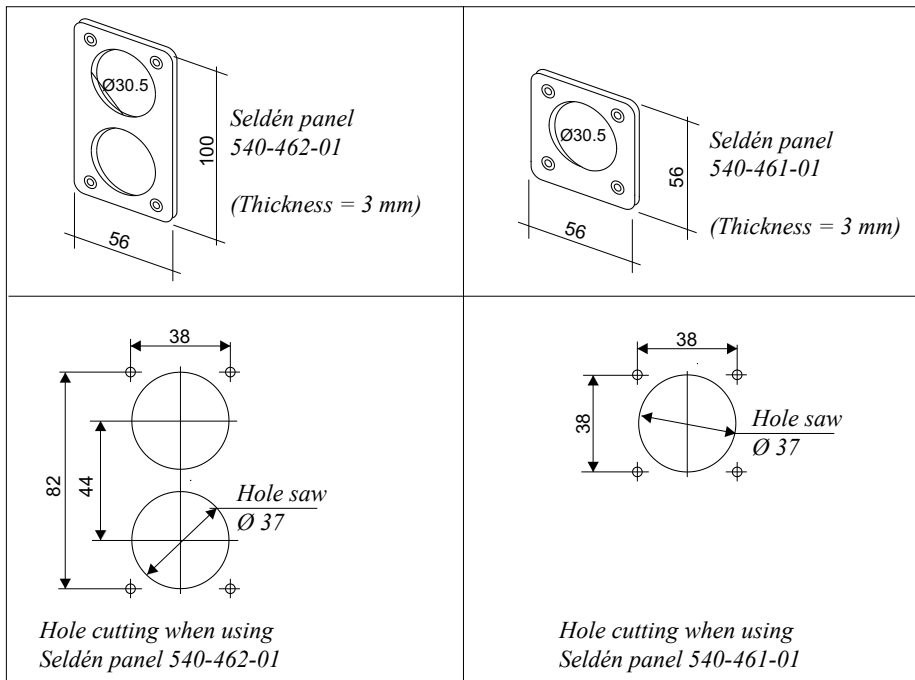

Fig. 4.7.2.b
3. Connect the control buttons to cable C4. Follow the wiring diagram, chap. 4.2. Seldéns buttons are supplied with the necessary spade connectors (size 2.8x0.5). See fig. 4.7.2.c.